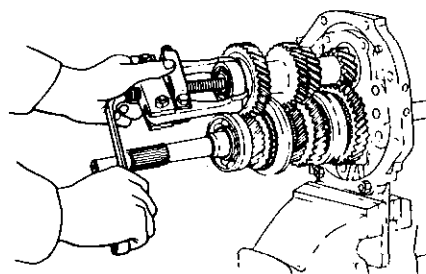

Fig. MT-12-1 Removing countershaft front bearing
1. With gears doubly engaged, draw out countershaft front bearing using a suitable gear puller. See Figure MT-12-1.